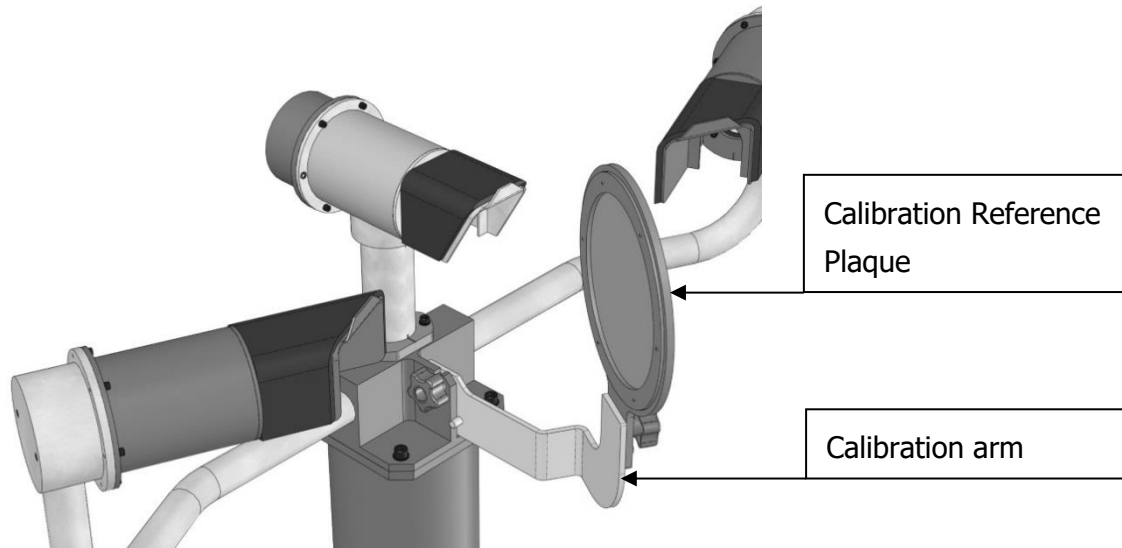

Figure 5-1 Assembly of Calibration Reference Plaque
Please see Figure 5-1 Assembly of Calibration Reference Plaque for a diagram of the Calibration Reference Plaque attached to a sensor.
The calibration reference plaque should first be attached to the arm. Confirm that the serial number marked on the calibration reference plaque matches that on the label on the calibration arm. If not, do NOT use this assembly as it may not give a true calibration. This assembly should then be attached to the sensor as shown in Figure 5-1 Assembly of Calibration Reference Plaque.
Step 2: Attach the calibration reference plaque to the sensor as shown in Figure 5-1 Assembly of Calibration Reference Plaque (power to the sensor need not be removed). Do not stand close to the sensor during calibration as reflections may cause errors in the reported values.